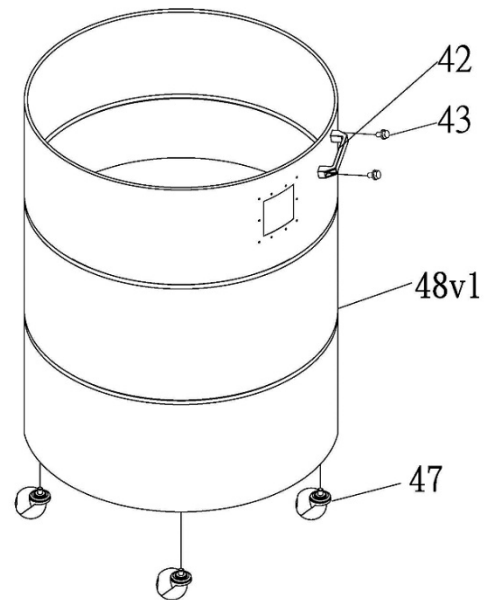

Fig. 2
3. Tighten the Drum Wheels (NO.47) under the collecting drum (NO.48V1) into the thread nuts. See FIG. 2.
4. Secure the Drum Handle (NO.42) on the Drum (NO. 48V1) with 1/4" x 1/2" Flat Head Screw (NO.43). See FIG. 2.